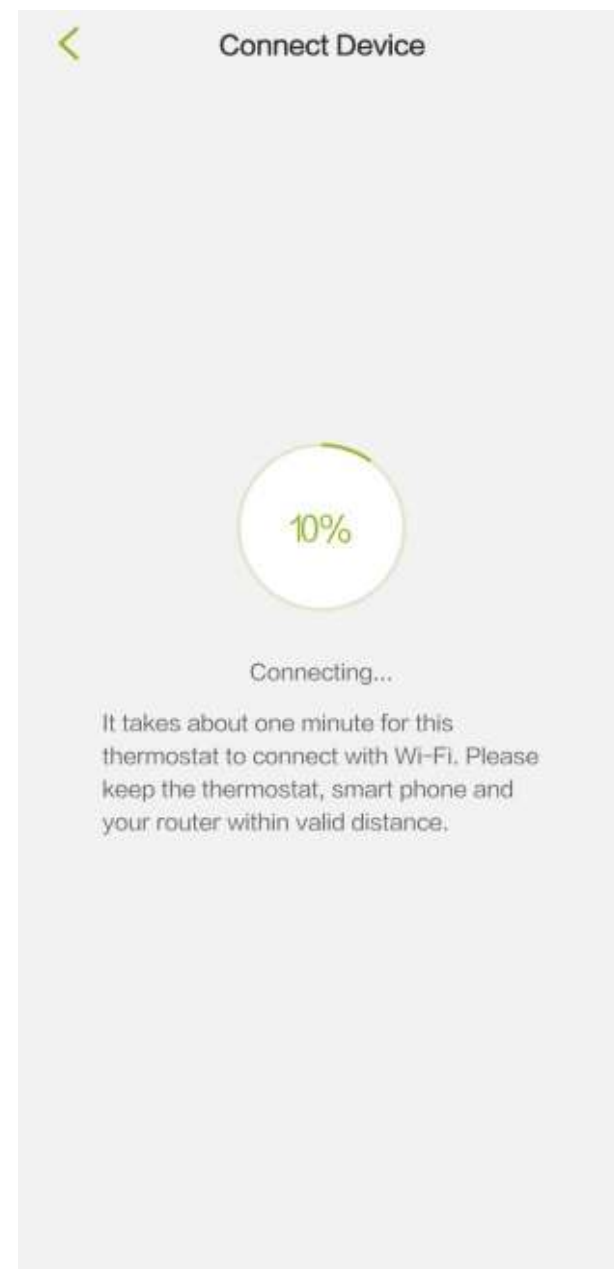

Fig. 3
- Connect your smart phone to Wi-Fi (Select **2.4 GHz Wi-Fi** and input password), it takes 30 to 60 seconds to complete (see **Fig.3**). Touch **“Help”** to trouble shoot if you fail to make it online.